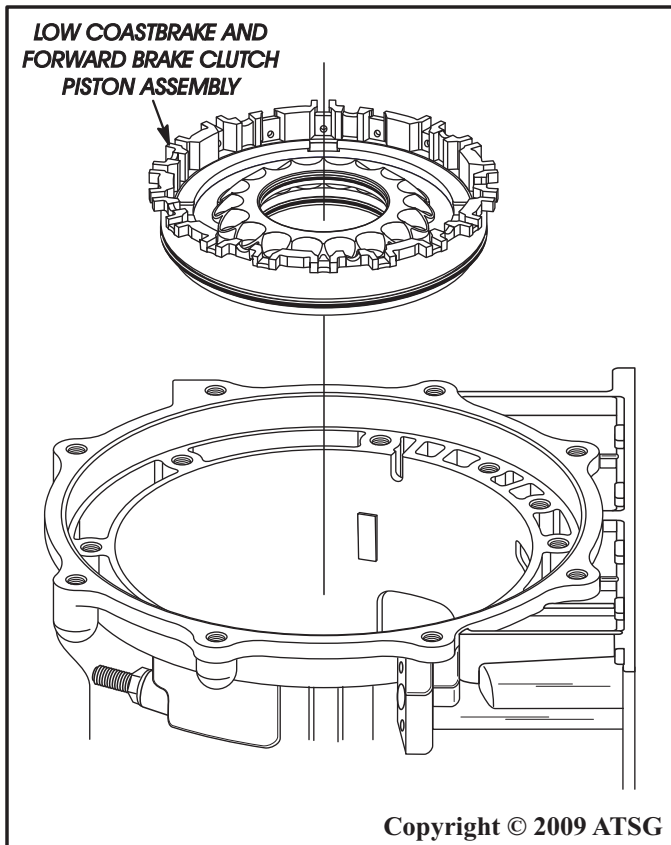

Figure 79
24. Install the low coast brake and forward brake clutch piston assembly into the transmission case, as shown in Figure 79.